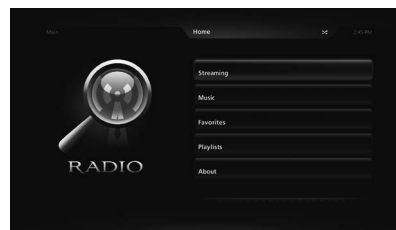

Figure 19
1. Press the ≡ (MENU) Push-button on the Remote Control to select the Home Menu. Refer to figure 19.